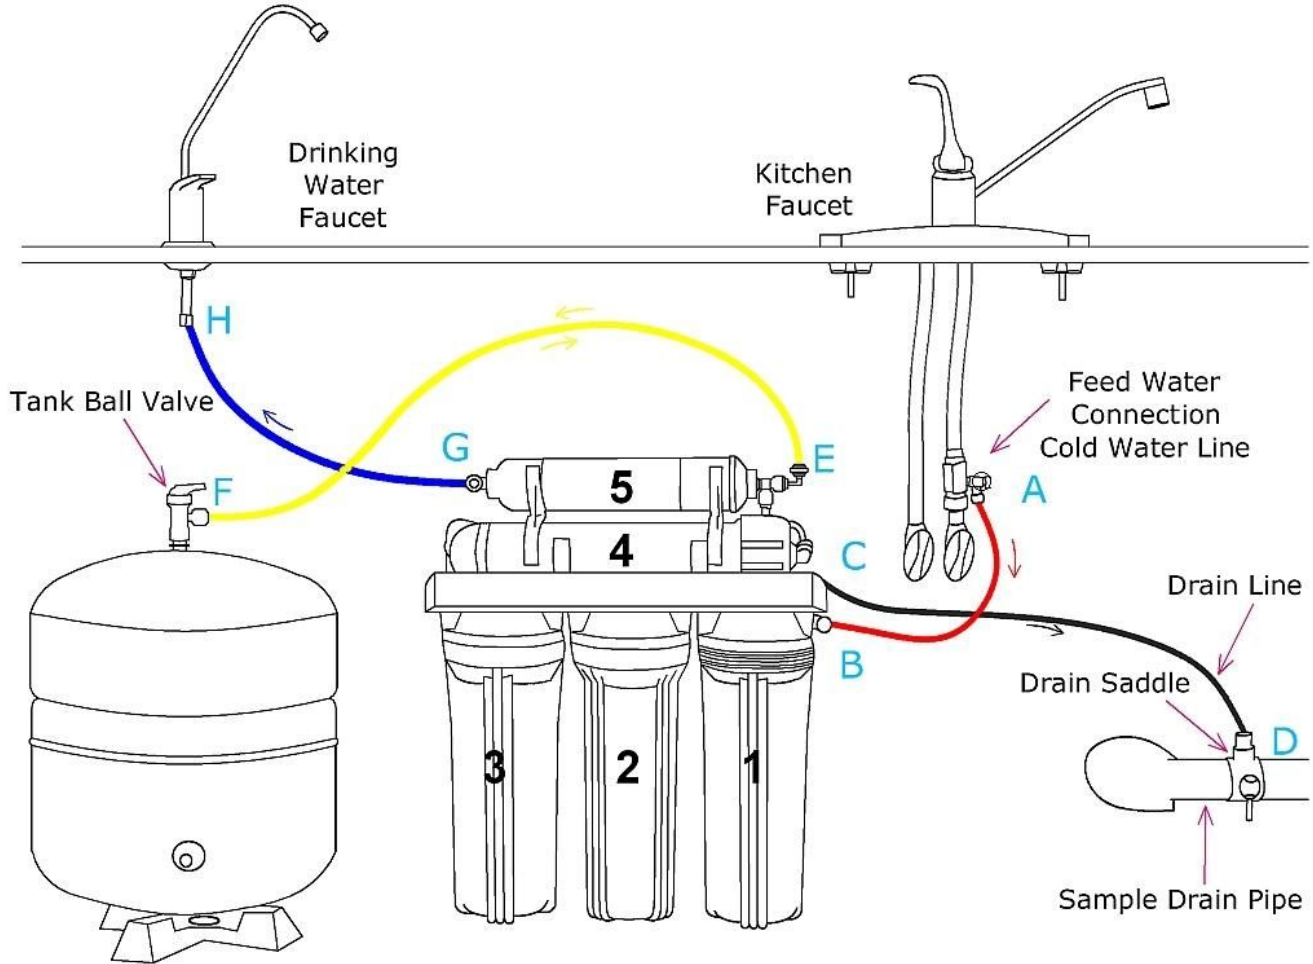

Figure 5
- 1.1 See Figure 5. Turn off the Cold Water Line via the Cold Water Supply Valve (CWSV) under the sink. Open the kitchen faucet to release any pressure and make sure the water has stopped before proceeding to the next step. Get a towel or bucket to catch any water drips. Disconnect the Kitchen Faucet Connector (KFC) pipe from the CWSV.